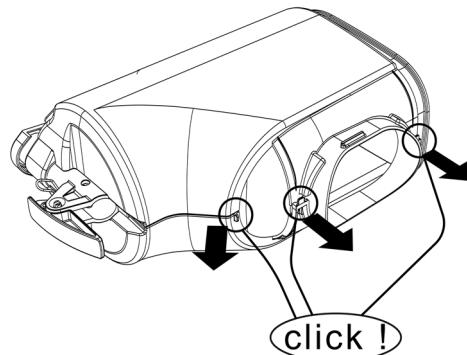

figure 13
- Click open the two parts. (see figure 13).